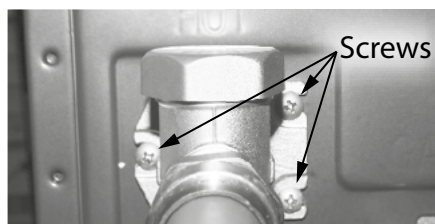

Figure 6 - Outlet assembly screw location
- 21** Locate the three (3) screws securing the outlet assembly to the base of the water heater. Use a Phillips screwdriver to remove the screws. Place screws aside in a safe place for reinstallation. See Figure 6.